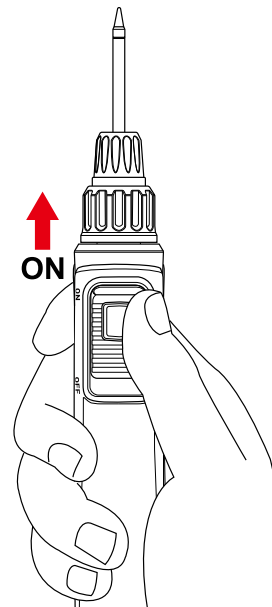

FIG. 2
3. Slide on/off switch to on position (Fig.2).